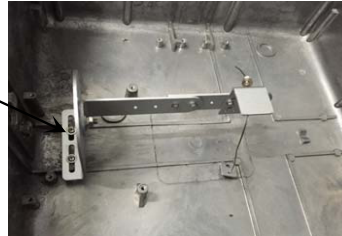

FIG.2
1. Mount the pre-assembled bracket (see FIG.1) to fixture (see FIG.2 for an example).